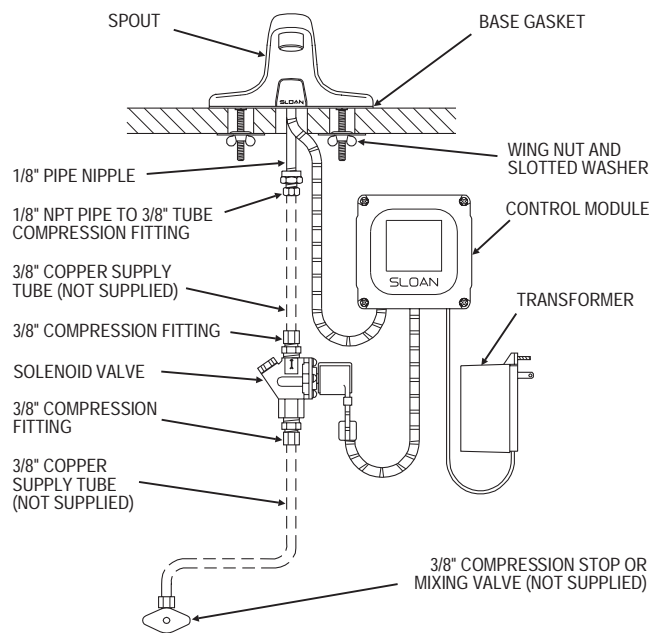

Figure 1
FAUCET ROUGH-IN — Figure 1
Prior to installing the Sloan ETF-600 Faucet, install the items listed below. Also, refer to Figure 1.
The Sloan ETF-600 sensor operated faucet can be supplied with two back checks. When connecting the faucet to a hot and cold water supply, two back checks are required as shown in Figure 1. Water temperature can be controlled by adjusting the supply stops. When connecting the faucet to a single line water supply or a pre-tempered water supply, a back check is not required.
Step 4 — Connect Supply Line(s) (Figure 1)
When connecting the Faucet to a hot and cold water supply, two Back Checks are required as shown in Figure 1.
Install a 3/8 inch copper Supply Tube between each Back Check and the Compression Tee Fitting supplied (refer to Figure 1).
Refer to Figure 1 — Faucet Rough-In for Additional Information.
Step 6 — Mount Control Module to Wall (Figures 1 and 10)
Install the Control Module in an appropriate location as shown in Figure 1. Control Module must be installed so that all cables enter from the bottom of the unit. When installed, Cables from the Spout and Solenoid Valve to the Control Module should have some slack.